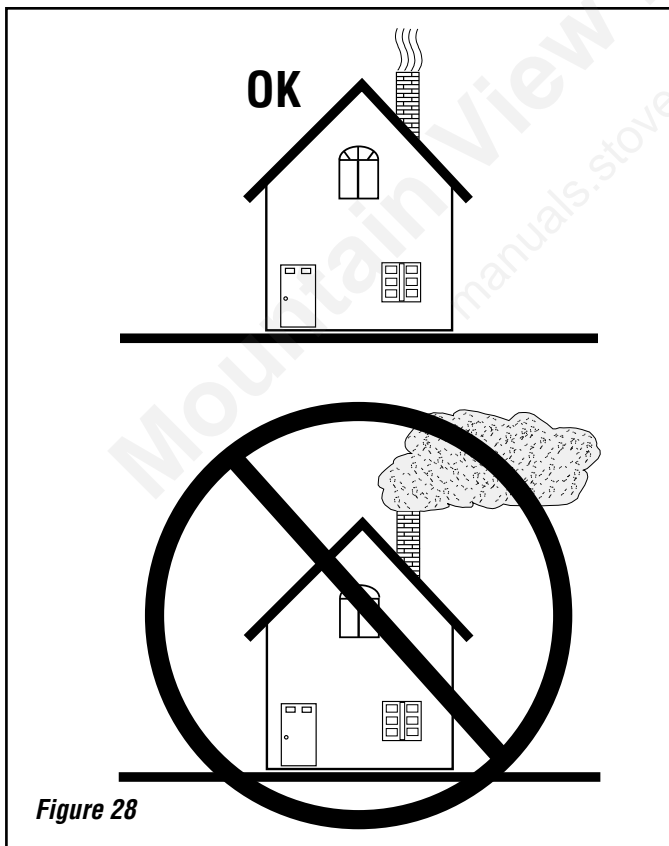

Figure 28
6. Go outside and check your chimney. More than a very small amount of smoke indicates wasted heat, creosote build up and pollution (see **Figure 28**).